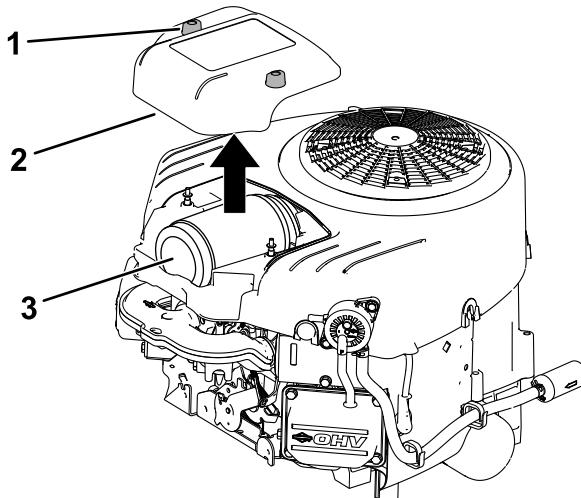

Figure 31
3. Install the cover and tighten the fasteners (Figure 31).